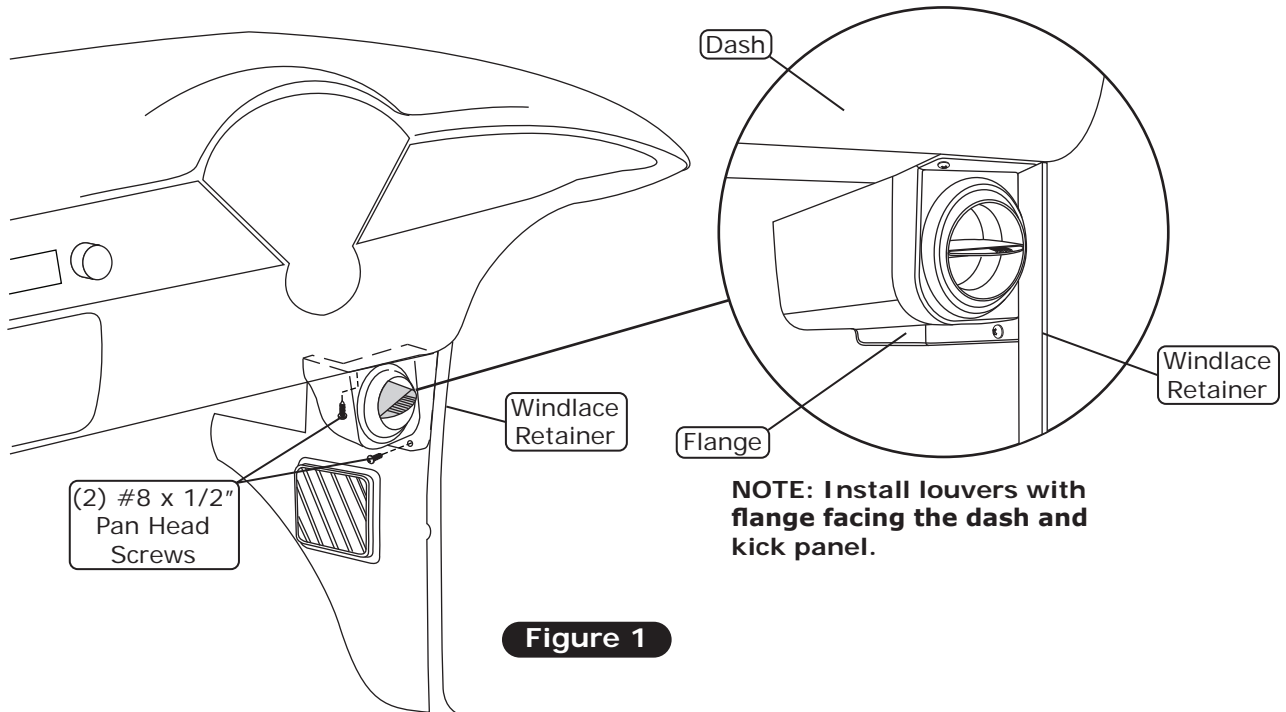

Figure 1
1. Install the driver and passenger side under dash louvers with the flange facing the dash and kick panel as shown in Figure 1, below. Tuck the kick panel side of the louver flange behind the kick panel windlace retainer, and slide the louver up until the flange is seated against the dash. Secure the louver to the kick panel with (2) #8 x 1/2" pan head screws (See Figure 1, below). **NOTE: In most cases, the louvers will fit as described. However, due to dash and kick panel variances, the presence of aftermarket components or modifications, etc., it may be necessary to trim the louver flange and/or slightly move the parking brake lever for proper fit.**
**NOTE: When installing the heater control valve, make sure the arrow is facing toward the evaporator module (See Figure 1, below). Measurements given for heater hose lengths in the instructions are recommended but may be modified for different applications.**